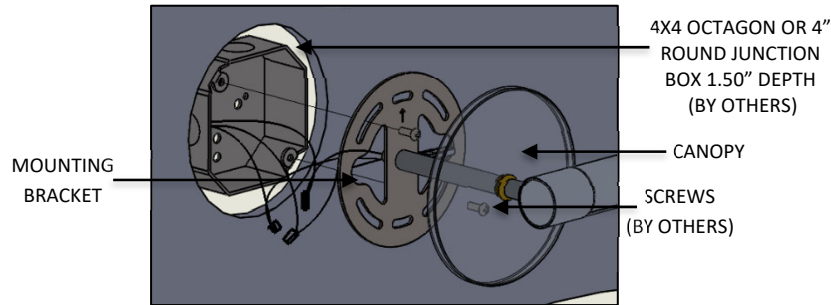

FIG. 14 – WIRE CONNECTION TO J-BOX (BY OTHERS)
4. Make all wire connections in the inside the junction box (by others) in accordance with the NATIONAL ELECTRICAL CODE and all applicable LOCAL AND STATE CODES. SEE WIRE DIAGRAM on page 4 for wire connections as shown in FIG 14.